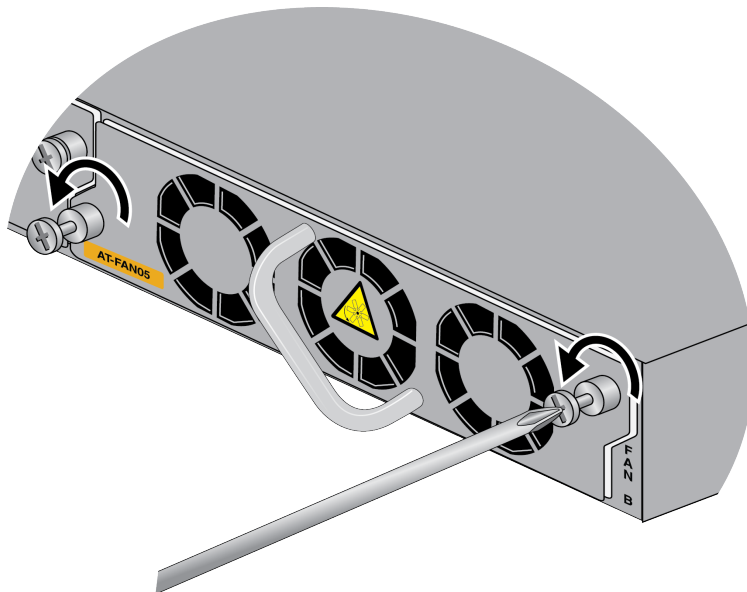

Figure 151. Loosening the Screws on the Fan Module
1. Use a #2 Phillips-head screwdriver to loosen the two screws on the faceplate of the fan module. Refer to Figure 151.